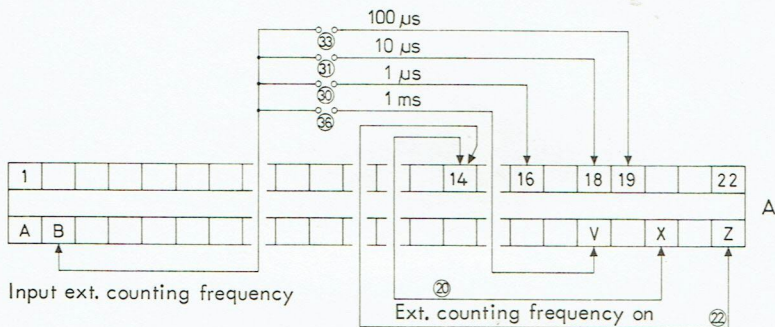
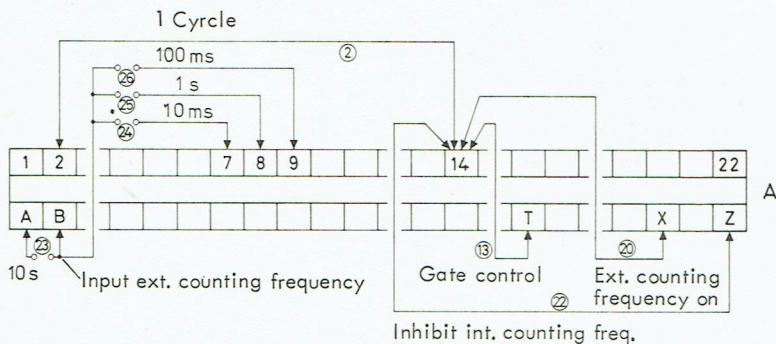
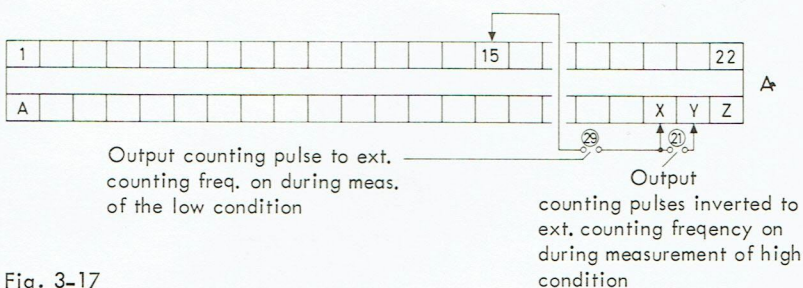

Fig. 3-15
Fig. 3-16
Fig. 3-17
The programming in accordance with Fig. 3-15 is valid for 1 μ s to 1 ms, that's shown in Fig. 3-16 for 10 ms to 10 s.
The signal is present at the measuring input. The cycle number selected determines the gate opening time. During the unmeasured pulse widths for half waves the standard frequency should not however be entered in the counter. This is achieved by connecting X-15 or X-Y. The read-out is with decimal point and takes place when programming in accordance with Fig. 3-17 in μ s. Resolution can however, be modified as shown in Fig. 3-15, whereby however connection X - 14, (20), is omitted. The result remains stored during the measuring process.
For programming of resolution (1 μ s – 10 s) see 3.1.5.1., Fig. 3-15 and Fig. 3-16.
The lead is connected to the measuring input and period measurement together with cycle number 1 selected (manual or remote control). If with slope switch on " + " both the start and also the stop signal is a negative pulse, the time is measured from leading edge to leading edge, if both are positive pulses, the trailing edges will be used to determine the time. If the slope switch is on " - " in the case of negative pulses the trailing edges and in the case of positive pulses the leading edges will be used. The read-out will be in μs . A different resolution (decadically stepped from 1 μs to 1 ms) is obtainable using the programming shown in Fig. 3-15.